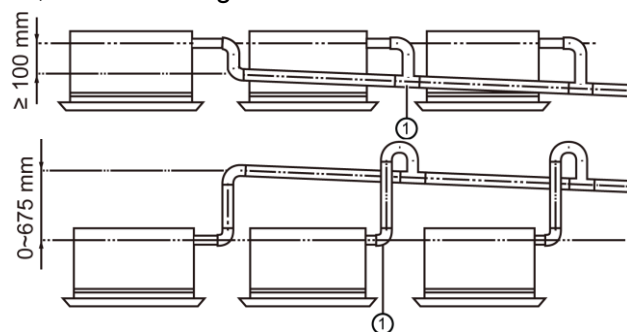

Fig 4.3.2
- (1) Drainage pipe should have the same diameter or larger diameter than the connection pipes(PVC pipe, outside diameter 25mm, thickness  $\geq 1.5\text{mm}$ ).
- (2) Keep drainage pipe short and sloping downwards at a gradient of at least 1% for preventing forming air bubbles.
- (3) If the gradient of drainage pipe could not meet the installation requirements, raising pipe should be applied.
- (4) Insert the drainage hose into drain socket and then tighten the metal clamp securely.
- (5) Warp the sealing pad over drainage hose and metal clamp for heat insulation.
- (6) Make sure to perform insulation work for all drainage hoses in the room in order to prevent any possible water dropping due to dew condensation.
- (7) Apply the suitable diameter for converging drainage pipe according to the operating capacity of the unit, as show in Fig. 4.3.2.